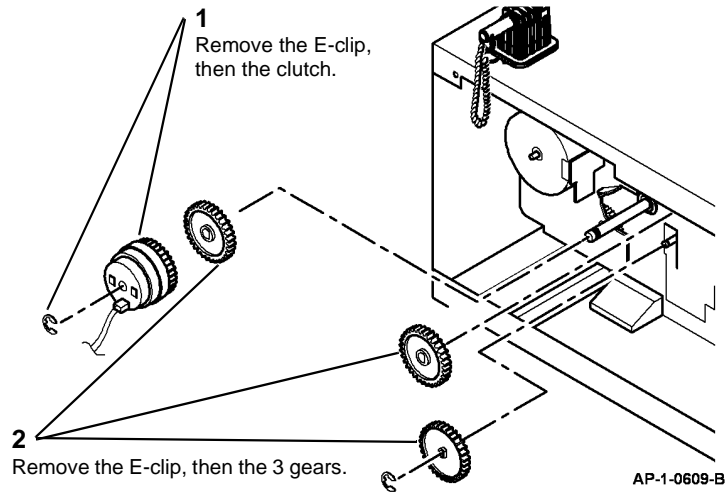

Figure 3 Clutch removal
7. Remove the tray pickup clutch and 3 gears, Figure 3.